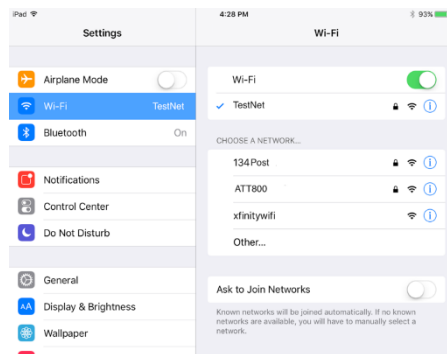

Figure 5-38: Connecting an iPad to the TestNet Wi-Fi Network
5. At this point, you will need to use the Network Settings page or app on your device to connect your device to the *TestNet* network. On most devices, this will require suspending the LellanApp and entering the Settings app. Figure 5-38 is an example from the iPad.